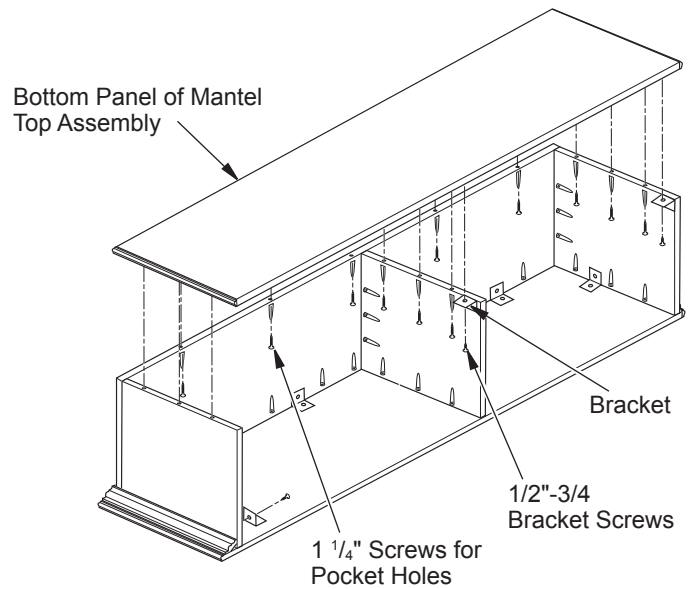

Figure 9 - Bottom Panel of Mantel Top Assembly
- Place the bottom panel on top assembly as shown in Figure 9. You may want to turn the entire assembly over for better access to pocket holes. Center the bottom panel left to right and make sure back is flush with back of side panels. Attach bottom to top assembly and middle support using (14) 1 1/4" screws (see Figure 9).
- Attach supplemental brackets using 1/2" - 3/4" screws provided in bracket hardware pack. Use 2 brackets to attach mantel top assembly - one at the back of each leg assembly and one at center of header (see Figure 9).